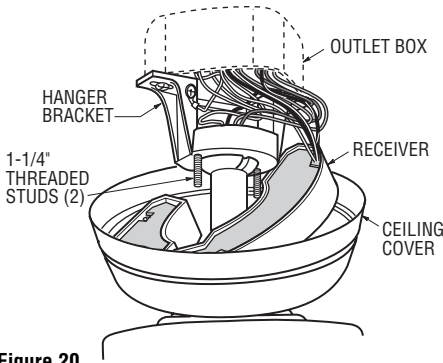

Figure 20
20. Insert the connected ends of the wires up through the open side of the hanger bracket and into the outlet box as shown in Figure 20.
21. Screw two 1-1/4" threaded studs (supplied with the ceiling fan) into the tapped holes in the hanger bracket (Figure 20).